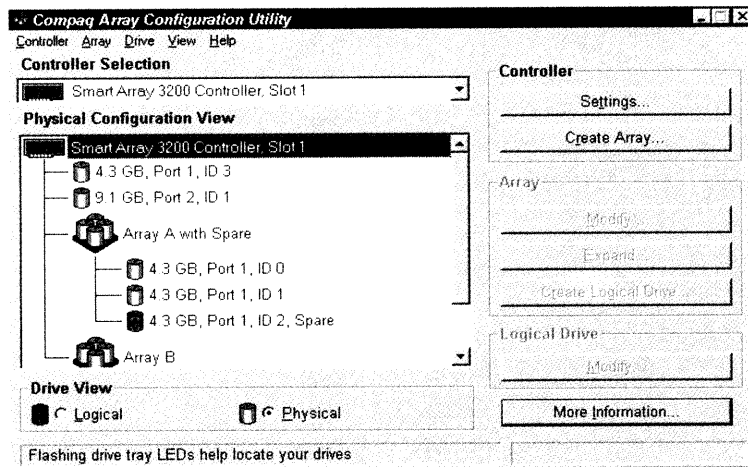

Figure 5-8. Example array - Configuration View screen with two arrays
- The Configuration View screen should look like Figure 5-8.